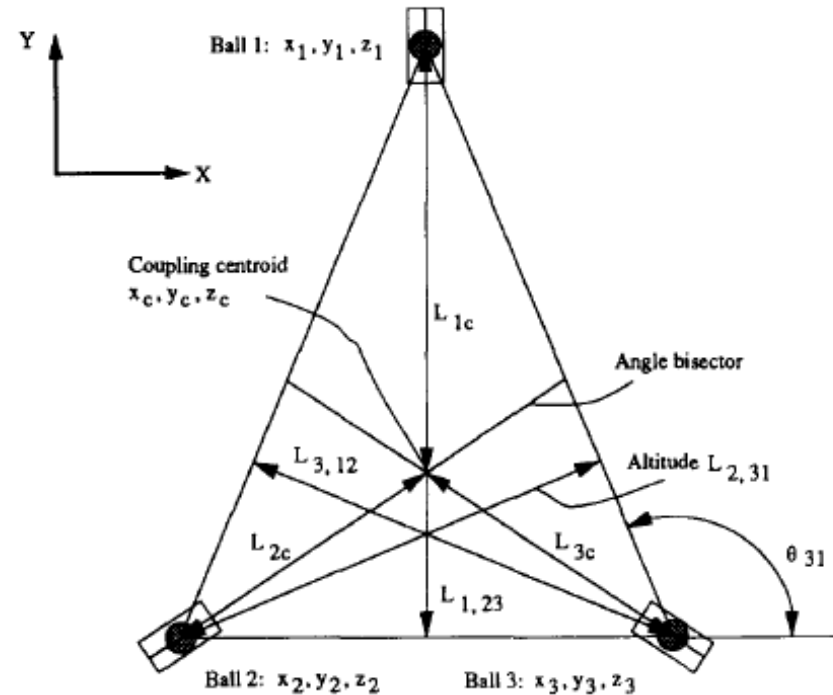

Figure 6 Geometry of a planar kinematic coupling
- The rotations of the coupling about the X- and Y-axes are conveniently determined for the case of a coupling whose grooves lie in the X-Y plane (other orientations confuse the angle definition in the spreadsheet analysis). To determine the rotations, the altitudes of the coupling triangle and its sides' orientation angles must be determined as shown in *Figure 6*. With these geometric calculations, the rotations about the X- and Y-axes can be determined: